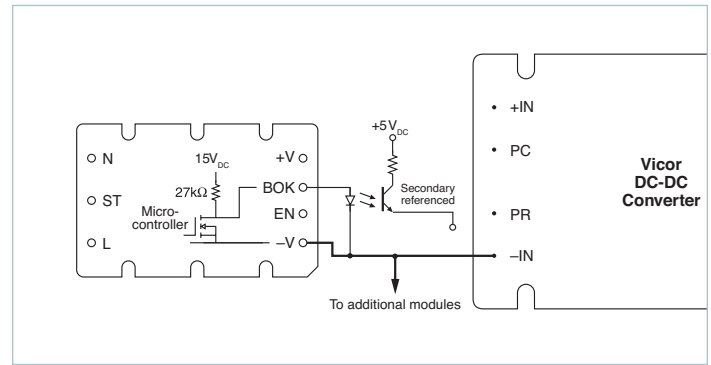

Figure 7.5 — Bus OK (BOK) isolated power status indicator
**Bus OK (BOK) Pin:** (Figure 7.5) The Bus OK pin is intended to provide early-warning power fail information and is also referenced to the negative output pin.